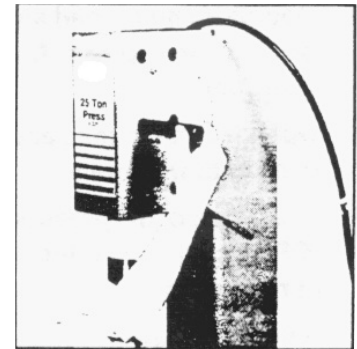

FIG. 4
7. Install the two bolster pins (see FIG. 4).